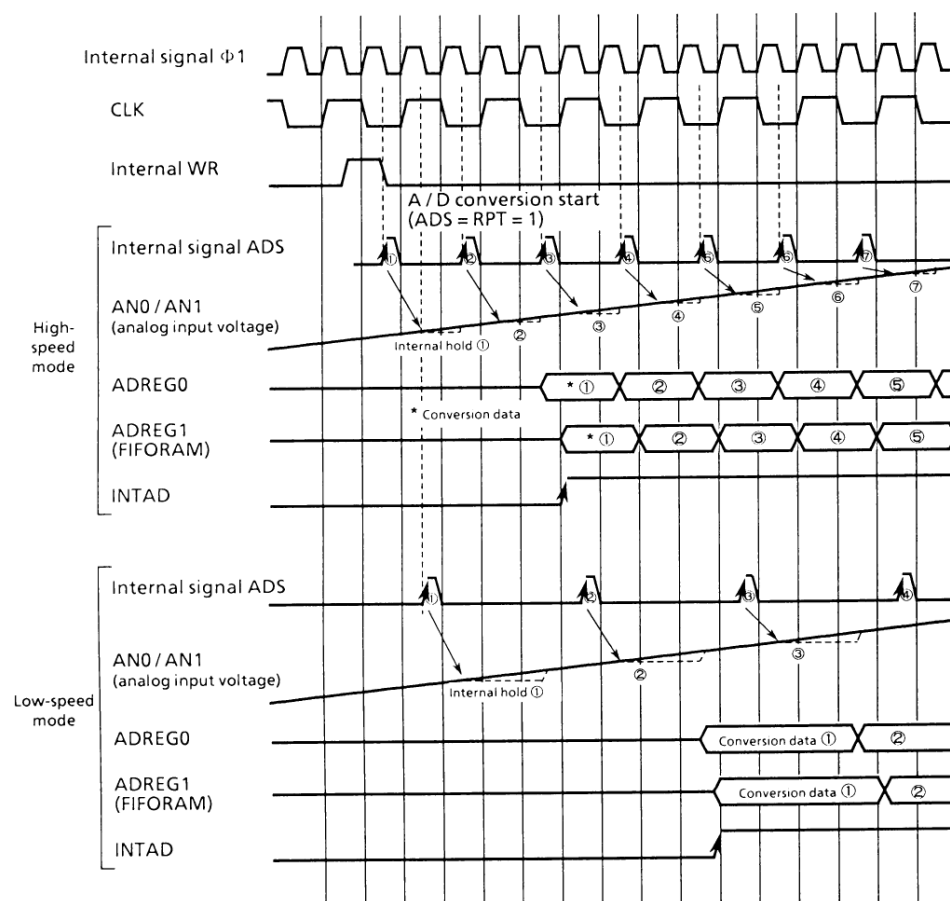

Figure 3.8 (4) Repeat Mode Operation Timing
The repeat mode operation timing is shown in Figure 3.8 (4).